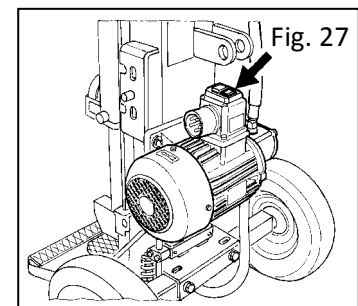

Fig. 27
- in the case of a 400 volt three-phase motor, press the green button as shown in fig. 27.